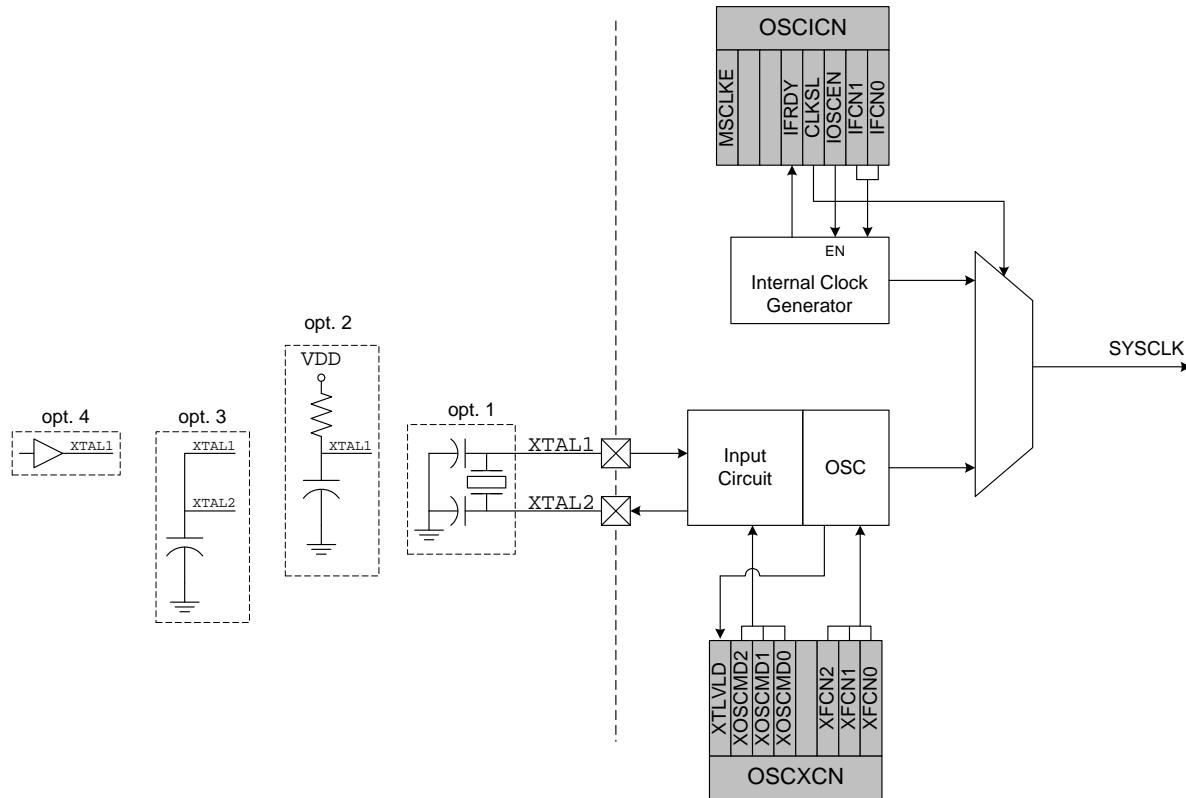

Figure 13.1. Oscillator Diagram
Both oscillators are disabled when the  $\overline{RST}$  pin is held low. The MCU can run from the internal oscillator permanently, or it can switch to the external oscillator if desired using CLKSL bit in the OSCICN Register. The external oscillator requires an external resonator, crystal, capacitor, or RC network connected to the XTAL1/XTAL2 pins (see Figure 13.1). The oscillator circuit must be configured for one of these sources in the OSCXCN register. An external CMOS clock can also provide the system clock by driving the XTAL1 pin. The XTAL1 and XTAL2 pins are NOT 5 V tolerant.
**CRYSTAL MODE** (Circuit from Figure 13.1, Option 1; XOSCMD = 11x)
**RC MODE** (Circuit from Figure 13.1, Option 2; XOSCMD = 10x)
**C MODE** (Circuit from Figure 13.1, Option 3; XOSCMD = 10x)
If a crystal were used to generate the system clock for the MCU, the circuit would be as shown in Figure 13.1, Option 1. For an ECS-110.5-20-4 crystal, the resonate frequency is 11.0592 MHz, the intrinsic capacitance is 7 pF, and the ESR is 60 W. The compensation capacitors should be 33 pF each, and the PWB parasitic capacitance is estimated to be 2 pF. The appropriate External Oscillator Frequency Control value (XFCN) from the Crystal column in the table in SFR Definition 13.2 (OSCXCN Register) should be 111b.
If an external RC network were used to generate the system clock for the MCU, the circuit would be as shown in Figure 13.1, Option 2. The capacitor must be no greater than 100 pF, but using a very small capacitor will increase the frequency drift due to the PWB parasitic capacitance. To determine the required External Oscillator Frequency Control value (XFCN) in the OSCXCN Register, first select the RC network value to produce the desired frequency of oscillation. If the frequency desired is 100 kHz, let R = 246 kW and C = 50 pF:
If an external capacitor were used to generate the system clock for the MCU, the circuit would be as shown in Figure 13.1, Option 3. The capacitor must be no greater than 100 pF, but using a very small capacitor will increase the frequency drift due to the PWB parasitic capacitance. To determine the required External Oscillator Frequency Control value (XFCN) in the OSCXCN Register, select the capacitor to be used and find the frequency of oscillation from the equations below. Assume  $V_{DD} = 3.0 \text{ V}$  and  $C = 50 \text{ pF}$ :